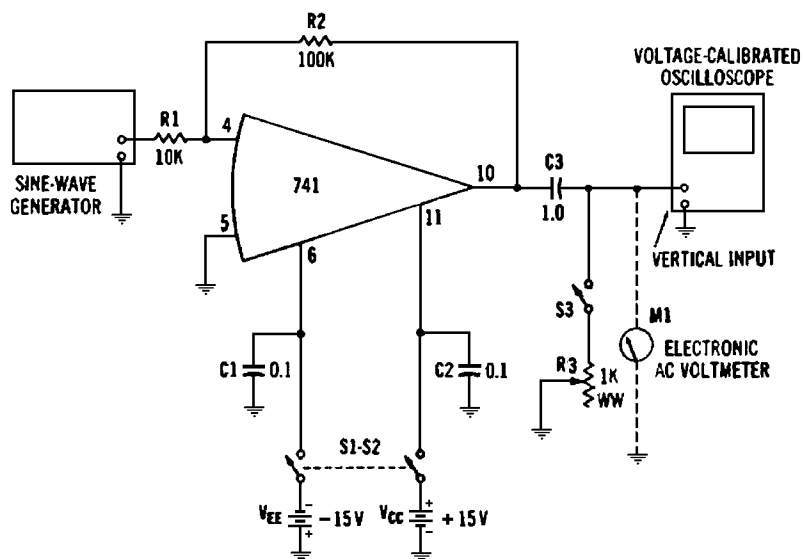

Fig. 2-27. Output impedance
1. With switches S1-S2 and S3 open, potentiometer R3 set to maximum resistance, the oscilloscope and generator off, and the generator output attenuator set to zero, set up the test circuit as shown in Fig. 2-27.